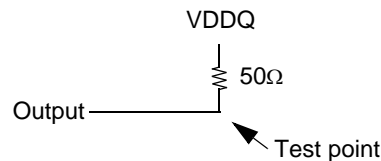

Figure 3 : Pulldown slew rate test load
b. Pulldown slew rate is measured under the test conditions shown in Figure 3.
Figures 3 and 4 show the driver characteristics graphically, and tables 8 and 9 show the same data in tabular format suitable for input into simulation tools. The driver characteristics evaluation conditions are:
1. The full variation in driver current from minimum to maximum process, temperature and voltage will lie within the outer bounding lines the of the V-I curve of Figure 3 and 4.
2. It is recommended that the "typical" IBIS V-I curve lie within the inner bounding lines of the V-I curves of Figure 3 and 4.